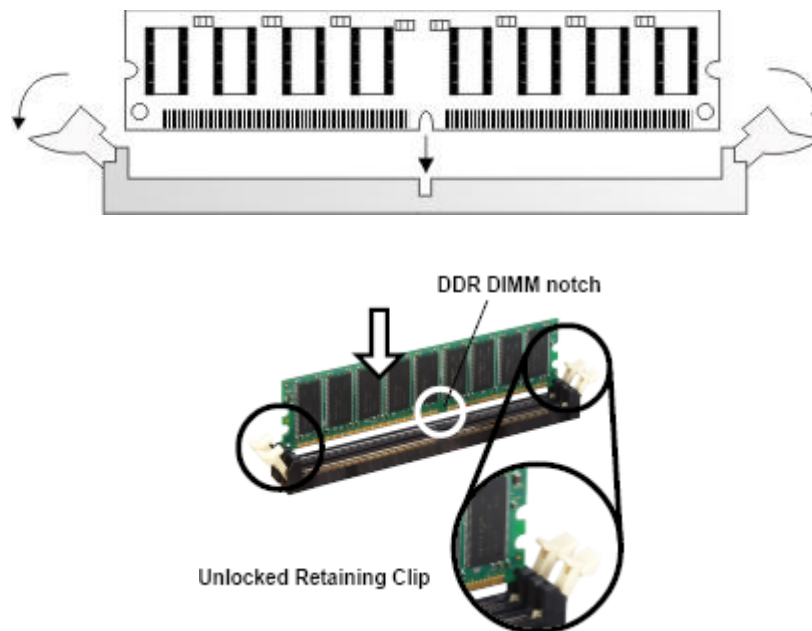

Figure 4-6: Installing the DIMM Module
Step 3: Make sure the two handles of the DIMM socket are in the "open" position, leaning outward (**Figure 4-6**).